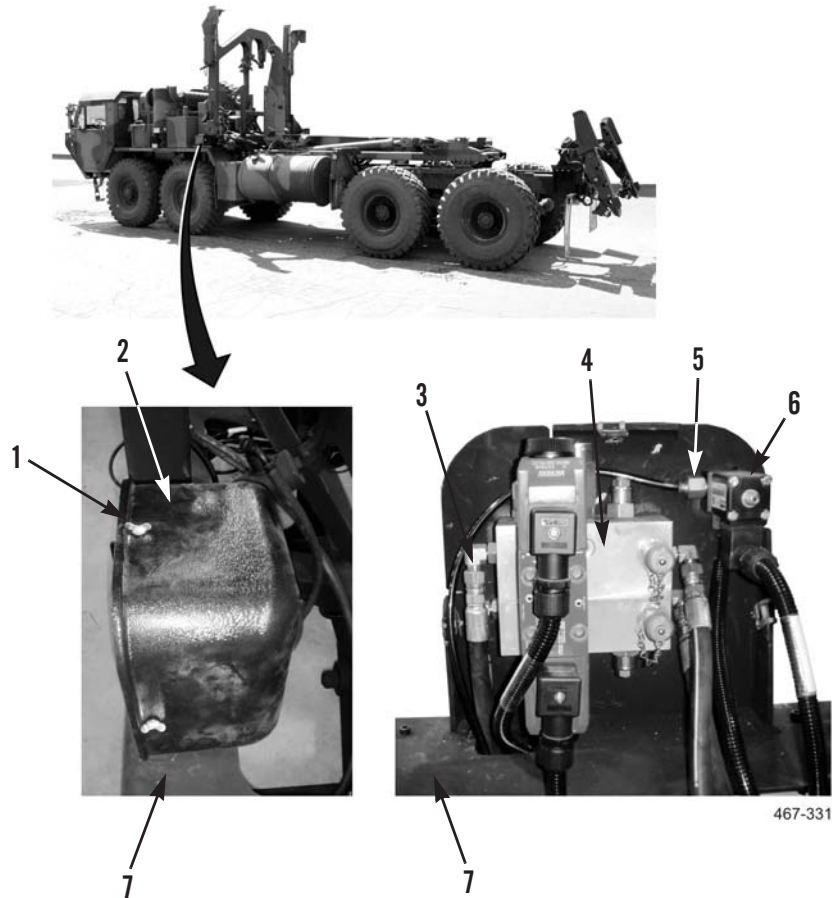

Figure 3. Disconnect Hydraulic and Pneumatic Lines.
5. Loosen three locking pins (Figure 3, Item 1), and remove manifold cover (Figure 3, Item 2) from stowage assembly (Figure 3, Item 7).
6. Disconnect two hydraulic hoses (Figure 3, Item 3) from manifold (Figure 3, Item 4) and route to under stowage assembly (Figure 3, Item 7).
7. Disconnect pneumatic line (Figure 3, Item 5) from solenoid valve (Figure 3, Item 6) and route to under stowage assembly (Figure 3, Item 7).